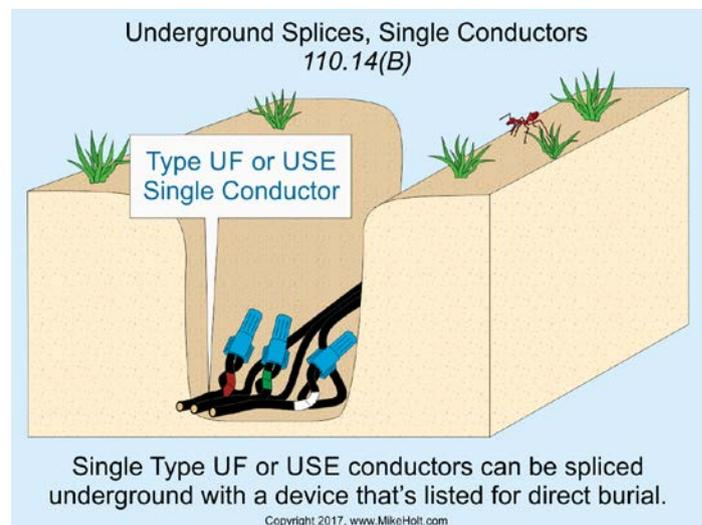

Figure 110-15
**Single Conductors.** Single direct burial conductors of types UF or USE can be spliced underground without a junction box, but the conductors must be spliced with a device listed for direct burial [300.5(E) and 300.15(G)]. Figure 110-15